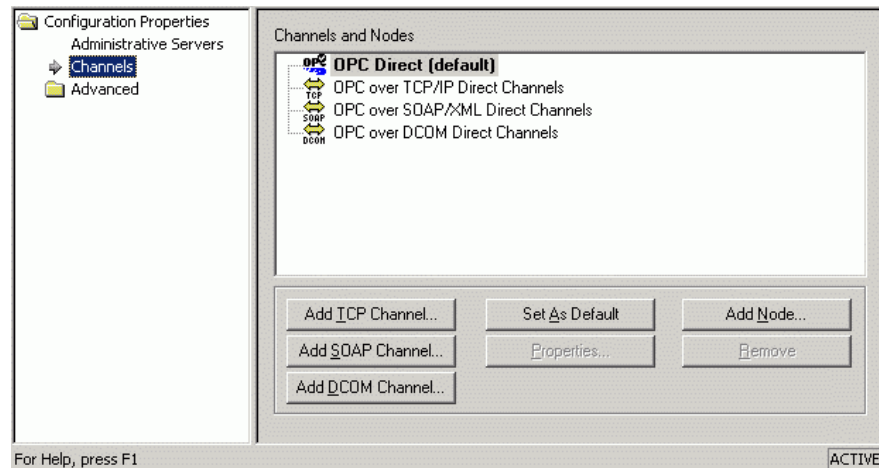

Figure 8.9. GenBroker Configurator
3. Clicking the **Edit** button opens the GenBroker Configurator, as shown in **Figure 8.9**. The screen consists of a split window with a tree control view in the left-hand pane and a configuration view in the right-hand pane. The Configurator provides a standard format for the configuration. The Configurator also includes a toolbar and menus with several command functions. The Configurator properties are described in detail in the sections below.